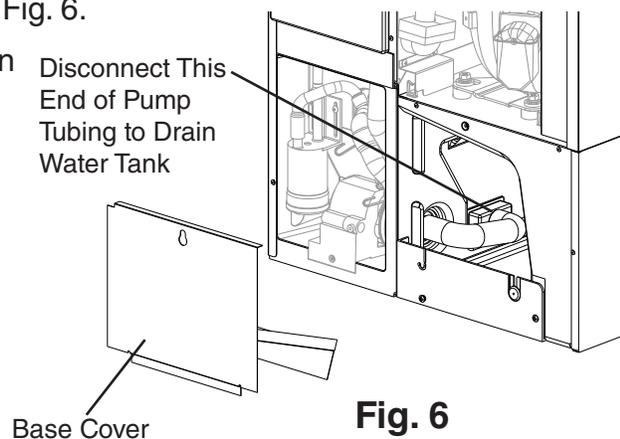

Fig. 6
- 3) Disconnect one end of the pump tubing to drain the water tank. After the water tank has drained, reconnect the pump tubing. See Fig. 6.